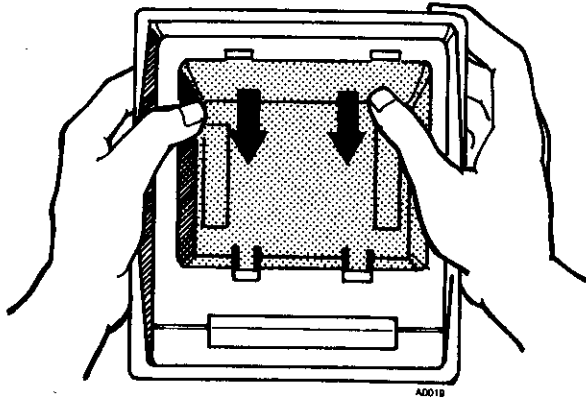

Figure 4 REMOVING WALL MOUNTING BASE FROM TELEPHONE, EK-616
- Push top of wall mounting down to remove it from telephone (Figure 4).